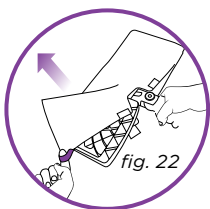

fig. 22
- 5 Remove the micro-fiber cleaning pad by releasing the quick fasteners and using the lavender loop on the side of the pocket, avoiding contact with the hot pad. (**fig. 22**)